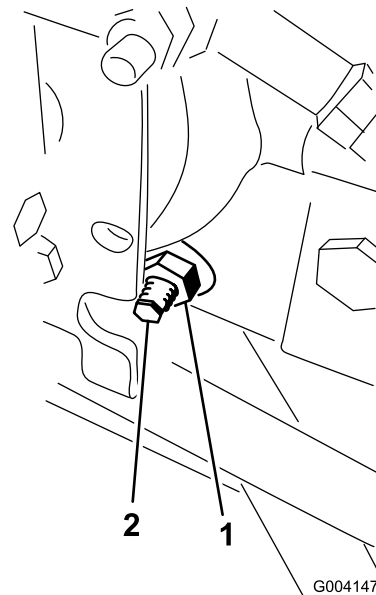

Figure 70
3. On the right side of the hydrostat, loosen the locknut on the traction adjustment cam (Figure 70).